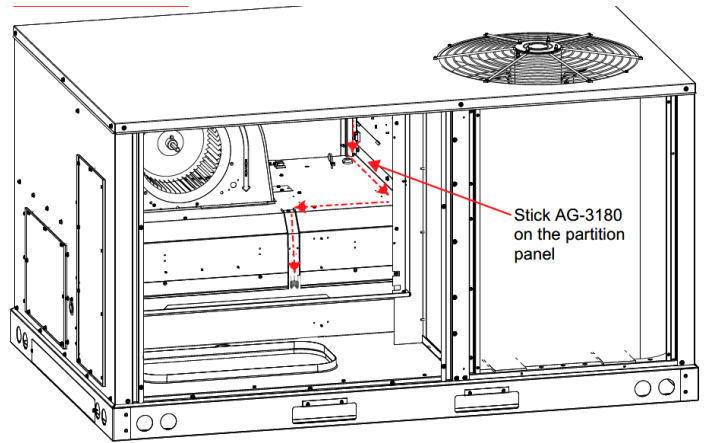

Figure 8
- Once the bracket-micro sensor assembly is mounted, route wires as shown in Figure 8. Bundle and zip tie any excess wire, and use the supplied cord clip (PSA backing) to secure the wire to the blower deck and/or partition panel.